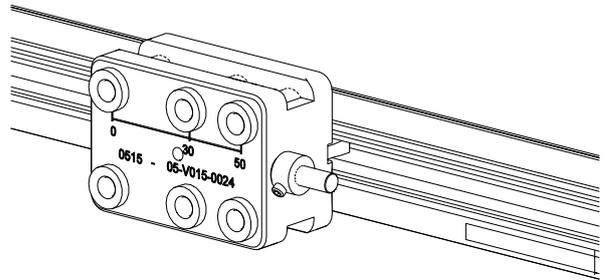

Fig. 90: Align stop ring correctly
- Align the stop ring correctly and fasten it accordingly (see Fig. 90).